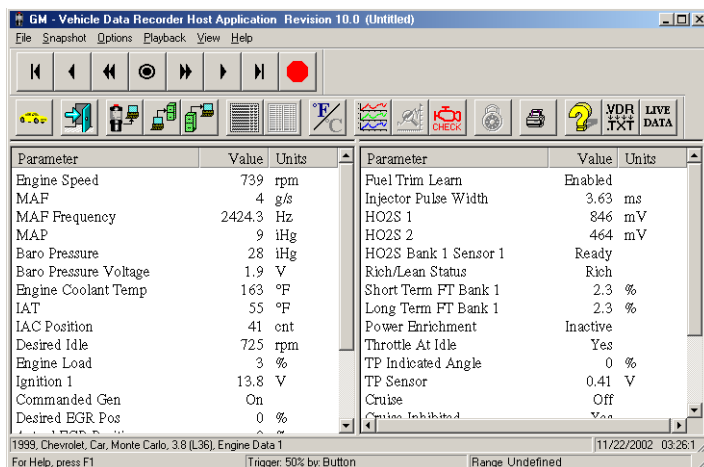

Figure 4.3: Snapshots Display Area
- 3 **Click the line for the snapshot** to upload and then click the **OK** button. The indicator light on the top of the VDR tool blinks to verify the upload. When the upload is complete, the snapshot appears in the main window’s display area (Figure 4.3 on page 41) and the indicator light on the top of the VDR tool stops blinking but remains lit.